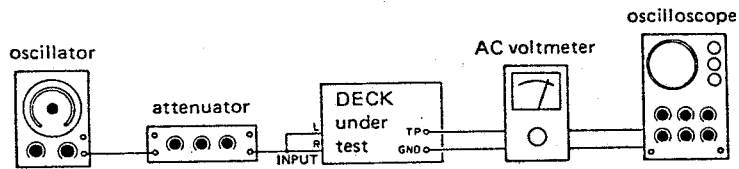

Fig. 6-3 Connections Through Test Points
| 1. Reprooutput level再生出力レベル          | Connection : Fig.6-3 ; butwith INPUT (L/R)disconnected. | MTT-150              | R118             | R/P PCBTP12 (L) - TP01 (GND)300mV(Refer to Fig.6-1 for TP's)                                                                                      |
|                                              | Connection : Fig.6-3 ; butwith INPUT (L/R) disconnected.    | "                    | Check            | R/P PCBTP22 (R) - TP01 (GND)-10.5dBV $\pm$ 1(Refer to Fig.6-1 for TP's)                                                                           |
| 12. Record bias録音バイアス                  | Same as above 同上Connection Fig6-3                                                          | —                                                                       | R183/R283                                                                                             | R/P PCBTP01-TP11/TP01-TP2113mV                                                                                        |